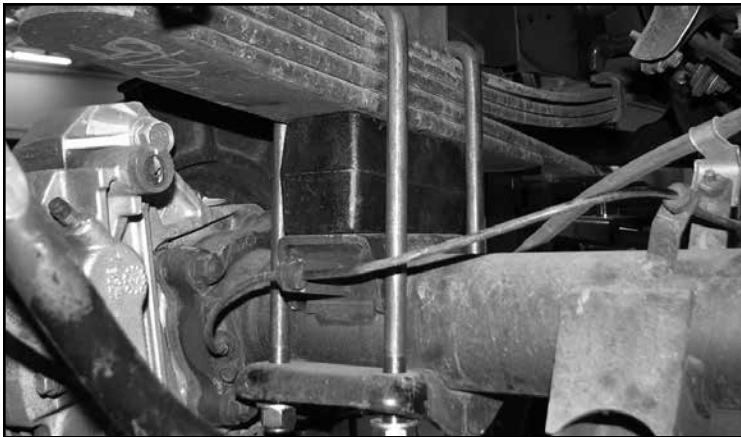

FIGURE 73 - STEP 57
57. Install the new block and ubolts. The shorter end of the block will face toward the front of the vehicle. Torque ubolts 127 ft-lbs. **SEE FIGURE 73**